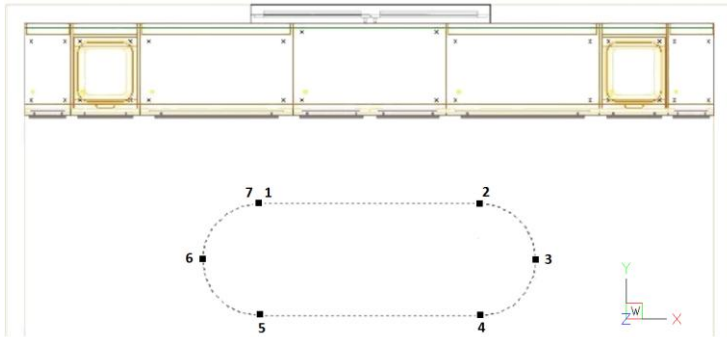

Fig. 218 – Drawing a path for untypical worktop – project view
8. an outline created this way (Fig. 218 on the next page) can be used for generating an untypical worktop.